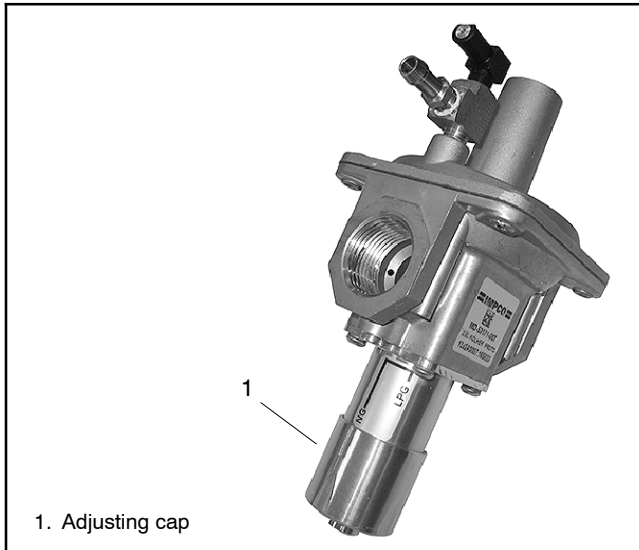

Figure 1-20 Fuel Pressure Regulator
1. Push the adjusting cap to its upper stop and rotate toward the LPG marking, release upward pressure, and lock into place. Figure 1-20.
1. Push up on the adjusting cap and rotate toward the NG marking. Release upward pressure, and lock into place. Figure 1-20.